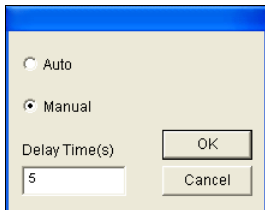

Figure 1-77
- Live disable alarm:** Choose whether to invoke the warning message when Scene Change is detected. Click the [...] button beside to display Figure 1-77.